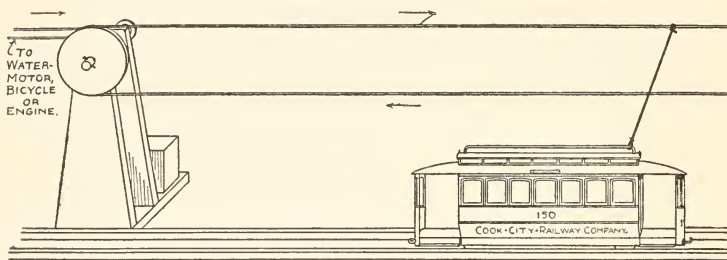

FIG. 76. — The Toy Railway
Figure 76 shows a railway set up and in running order. As shown in the illustration,
**Operation of the Railway**, and though Fig. 76 probably shows sufficiently clear how it is run, a few words may be helpful. The car or cars are placed between the wooden tracks, and the trolley (or cord attached to the ring on top of the car) is tied to the trolley-line as in the illus-